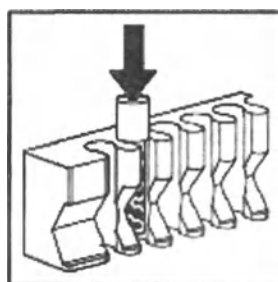

Figure 3
- C. Push the activated indicator down to seat it in the metal heating block (see Figure 3). Be sure that the cap remains above the metal block when seated in the incubator.